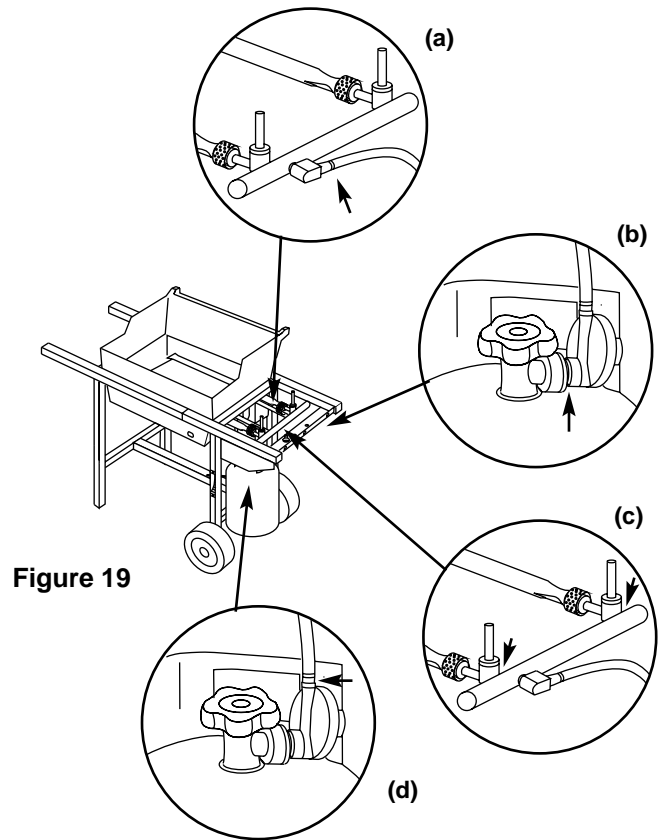

Figure 19
- a) Hose to manifold connection. Figure 19 (a).
- b) Regulator to tank connection. Figure 19 (b).
- c) Valves to manifold connections. Figure 19 (c).
- d) The hose to regulator connection. Figure 19 (d).